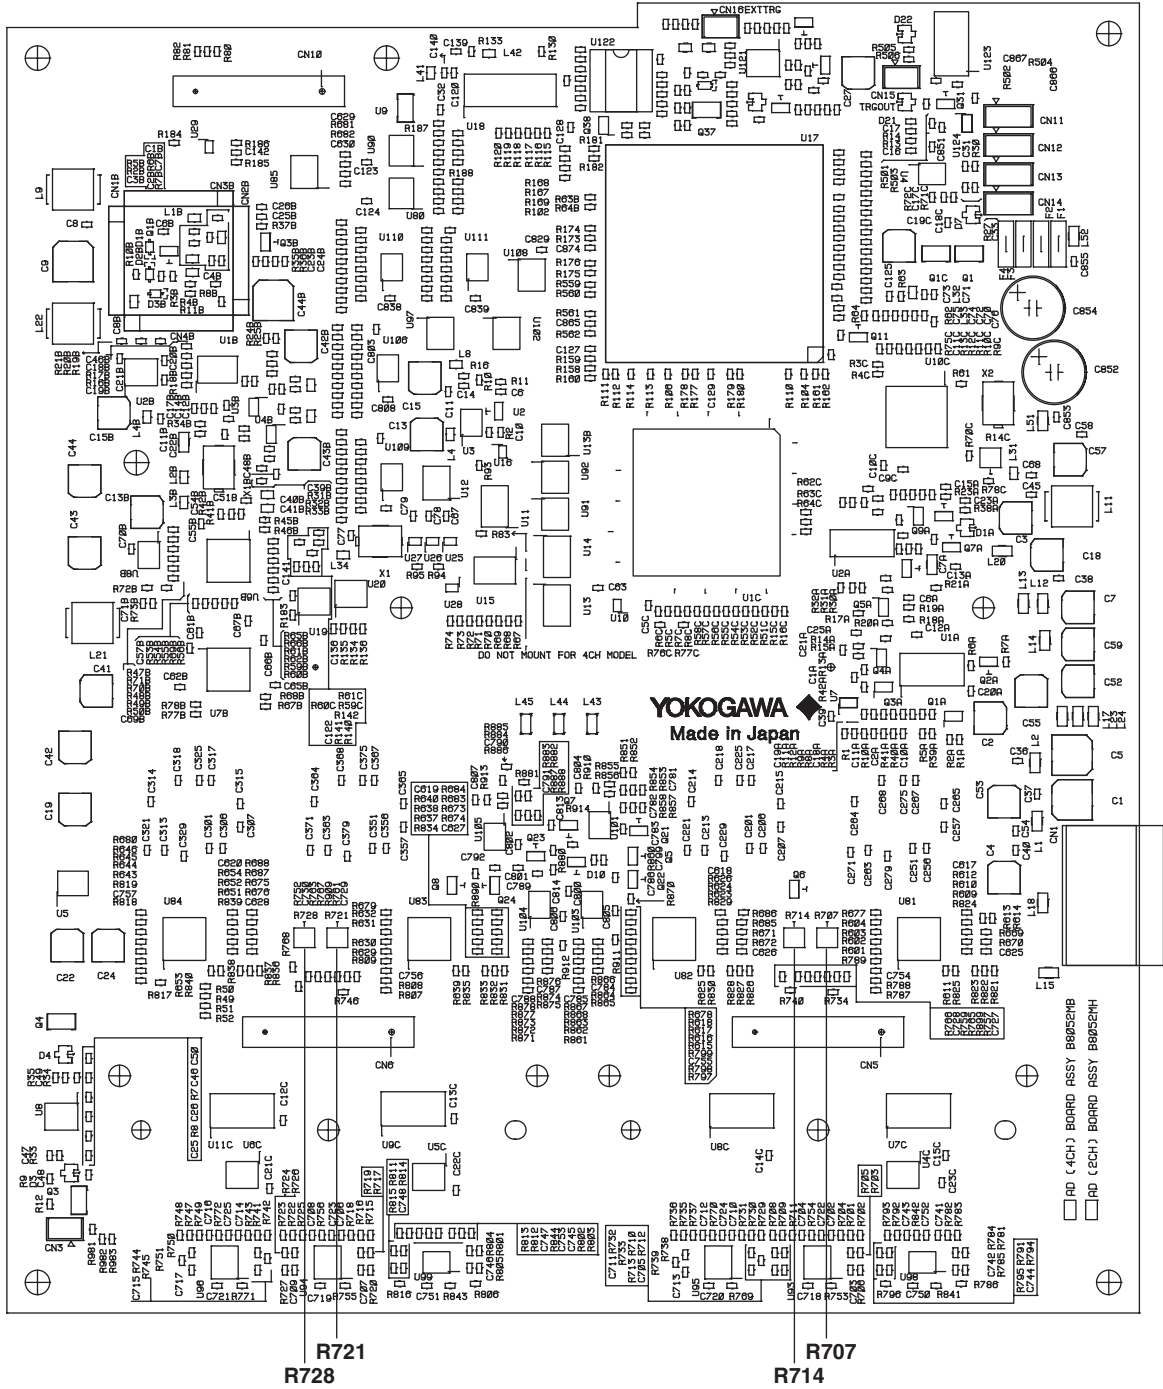
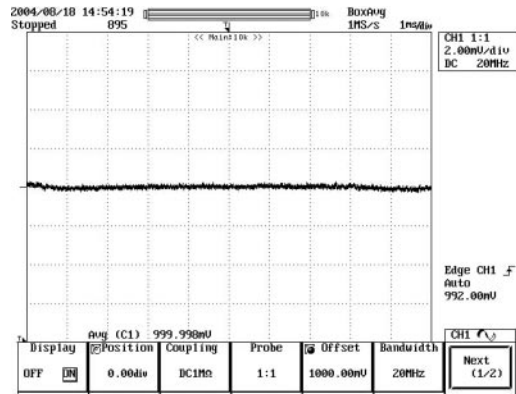

Figure 3.2 Adjustment Point Location Diagram
Figure 3.3 Observed Waveform
8. Adjust the variable resistor (refer to table 3.2, "Adjustment Point" and figure 3.2, "Adjustment Point Location Diagram") corresponding to each channel so that the DC waveform fits within $1\text{ V} \pm 1\text{ mV}$ as shown in figure 3.3, "Observed Waveform."